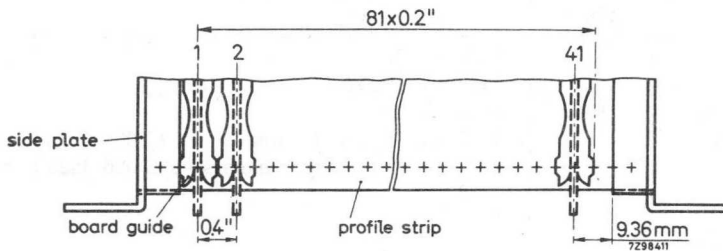

Fig. 3
1. Snap the board guides into the desired holes of the 4 profile strips. For pitches between the printed-wiring boards of 0.4", 0.5", 0.6", 0.7" and 0.8", refer to Figs.3 to 7. Pay attention to the asymmetrical shape of the board guides.